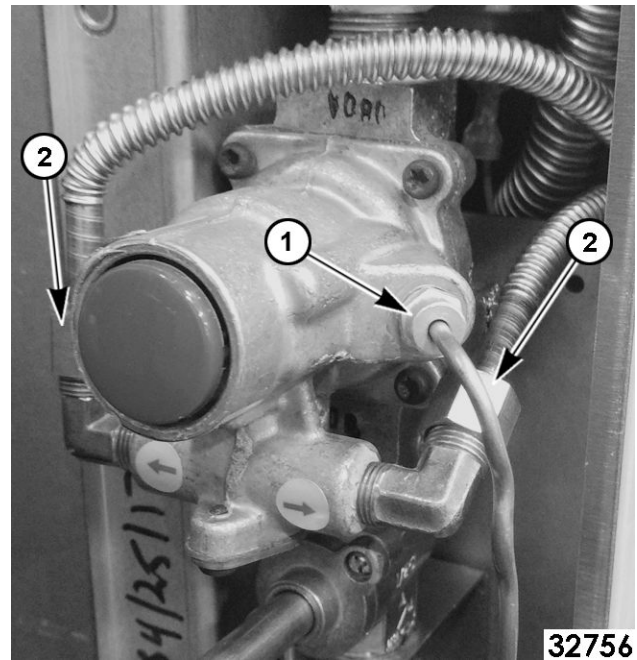

Fig. 26
3. Remove fitting (1, Fig. 26) and flex line (2, Fig. 26) from pilot safety valve.